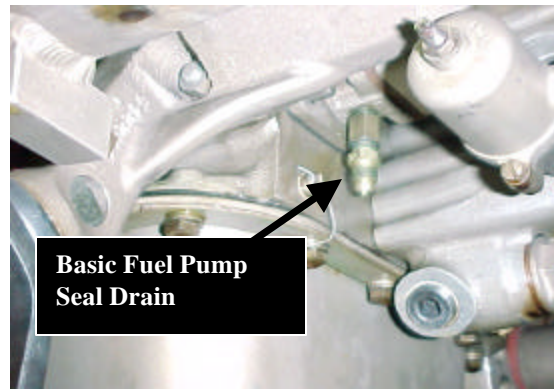

FIGURE 6
11. Locate the engine driven fuel pump assembly basic fuel pump seal drain tube connection at the engine driven fuel pump. Refer to Figure 6.
12. Isolate the basic fuel pump seal drain by disconnecting the seal drain tube at the fitting. Refer to Figure 6.